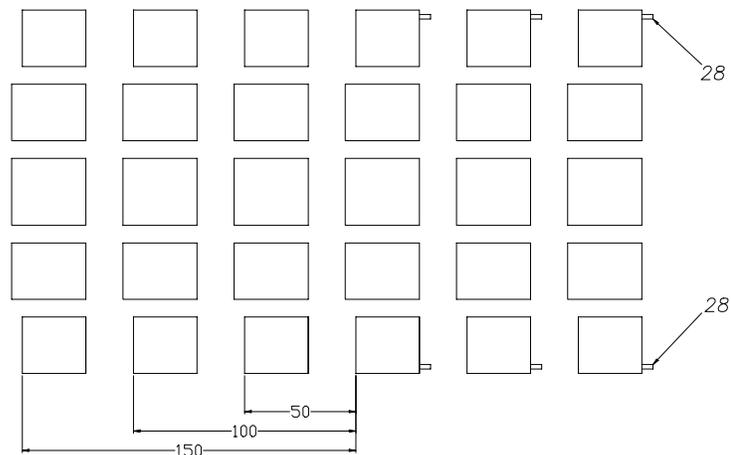

Figure 7-9
7. Some of the long (outer) package supports require installation of a dowel pin. Refer to Figure 7-9. Install dowel pin if necessary before installation of replacement package support.
7. Beginning with the lifter arm closest to the stationary arms, position the arm so that it is 50mm from the stationary arm and tighten the lifter arm stop clamp just enough to hold it in position (see Figure 7-9).
9. Repeat this procedure for the remaining lifter arms using the dimensions shown in Figure 7-9.